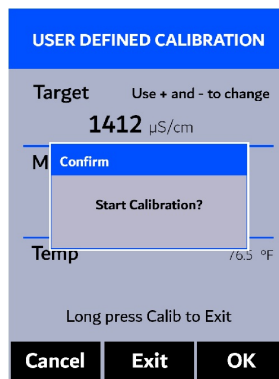

Figure 19.
9. The display updates as shown in Figure 19 and the user can choose one of three options: